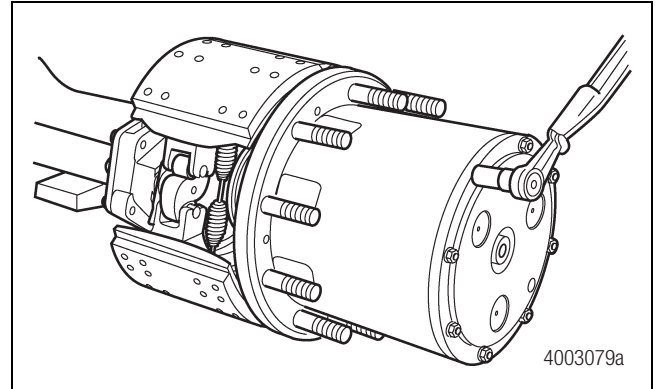

Figure 3.50
2. Apply Loctite® 242 threadlocker to the planetary spider-to-hub capscrews. Use a 15 mm socket and wrench to install the planetary spider assembly and capscrews. Tighten the capscrews to 44-55 lb-ft (60-75 N•m). Figure 3.50.